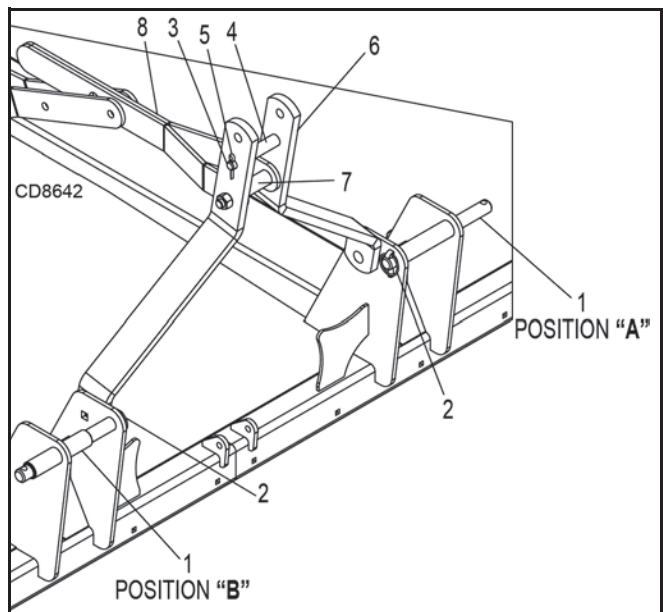

Figure 3. DS10.40E Standard and Quick Hitch Connection
2. Insert lower hitch pins (1) to Position B, Figure 3, through mast plates and tractor lower lift arms.
3. Secure with klik pins (2).
4. Connect the tractor top link to the cutter A-frame using the middle holes and 19 mm (3/4") pin (3), 25.4 mm (1") OD sleeve (4), cotter pin (5), and 6.4 mm (1/4") klik pin (6).
2. Insert lower hitch pins (1) to Position A, Figure 3.
4. Connect the tractor top link to the cutter A-frame using top holes and 19 mm (3/4") pin (3), 31.8 mm (1-1/4") OD sleeve (not shown), cotter pin (5), and 6.4 mm (1/4") klik pin (6).
1. Position lower hitch pins (1) to Position A, Figure 3.
2. The upper hook on the quick hitch will engage the 31.8 mm (1-1/4") sleeve (7) between break links (8) as shown for Category 2. Break links and sleeve will need to be moved up to the middle hole of the A-frame for Category 3.